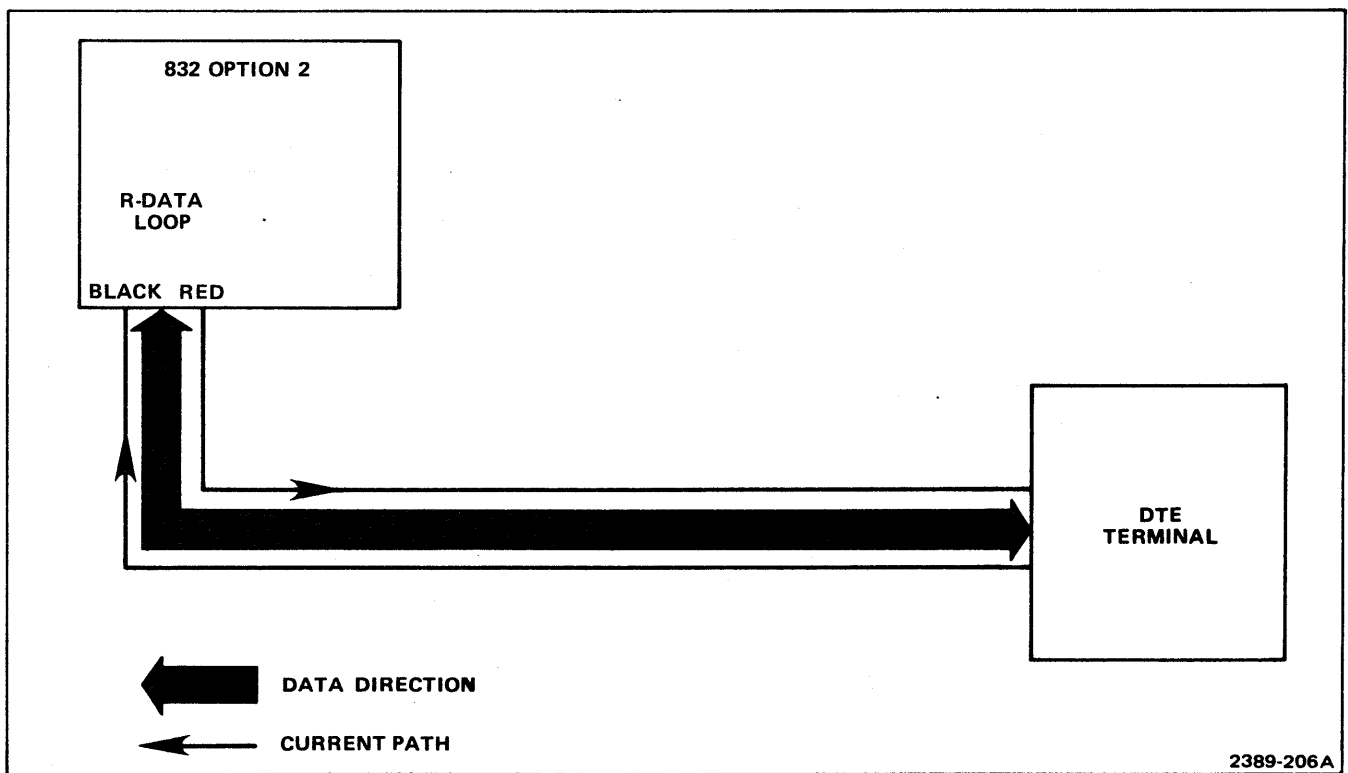

Figure Option 2-5. Half-Duplex (two-wire) Modem Simulator Mode.
3. Connect only the R-DATA LOOP test leads to the unit under test as shown in Figures Option 2-5 and Option 2-6.